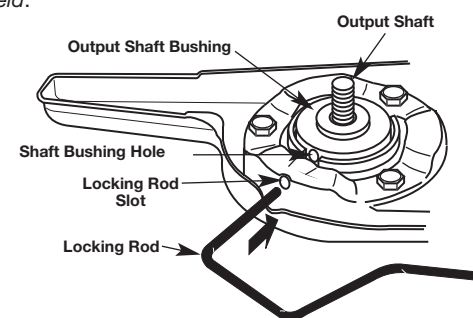
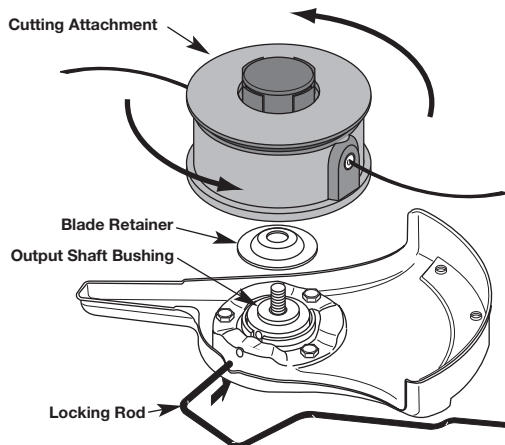

Fig. 10
Fig. 17
1. Align the shaft bushing hole with the locking rod slot and insert the locking rod into the shaft bushing hole (Fig. 10).
- Align the shaft bushing hole with the locking rod slot and insert the locking rod into the bushing hole (Fig. 10).
- Align the shaft bushing hole with the locking rod slot and insert the locking rod into the shaft bushing hole (Fig. 10). Place the blade retainer on the output shaft with the flat surface against the output shaft bushing (Fig. 17). Screw the cutting attachment counterclockwise onto the output shaft. Tighten securely.